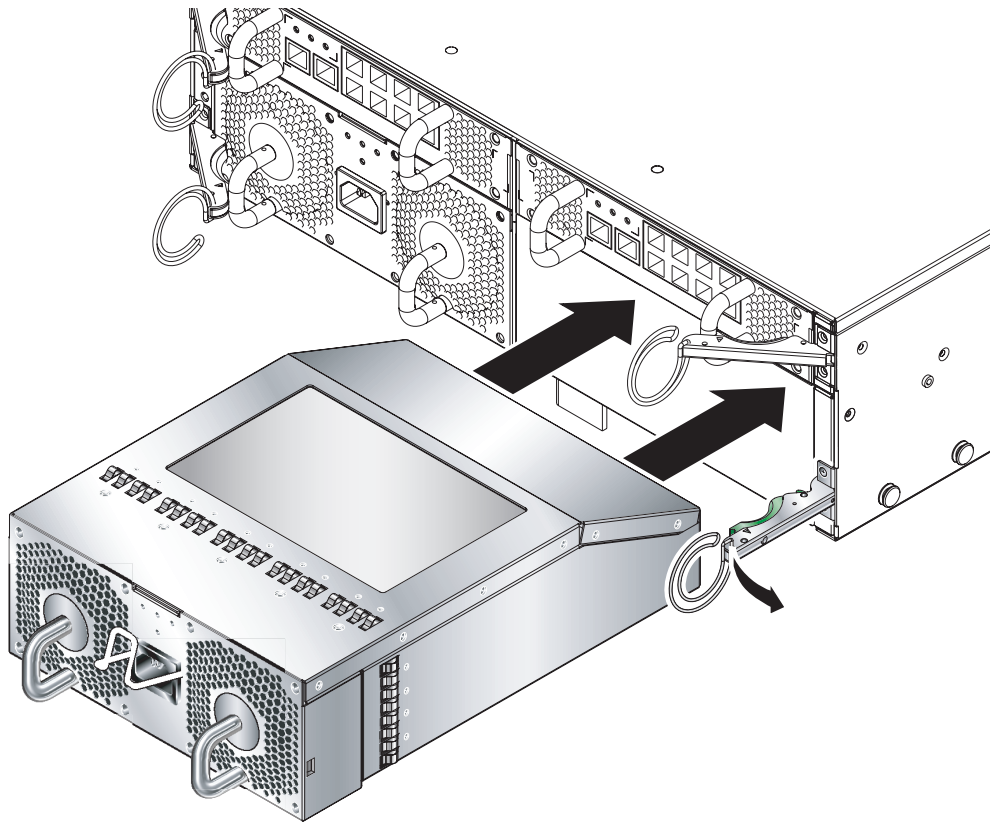

FIGURE 4-10 Aligning the PSU
PSU connectors must face towards the system chassis and be located on the lower half of the PSU (FIGURE 4-10).
2. **Check that the chassis ejector lever is opened fully and does not obstruct the opening to the PSU slot (FIGURE 4-10).**